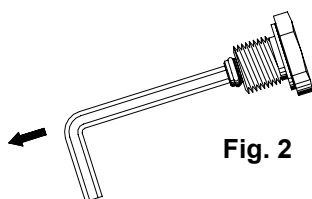

Fig. 2
- b) Located inside the return plug is the by-pass plug. Remove it with a 4 mm Allen wrench (Fig. 2).